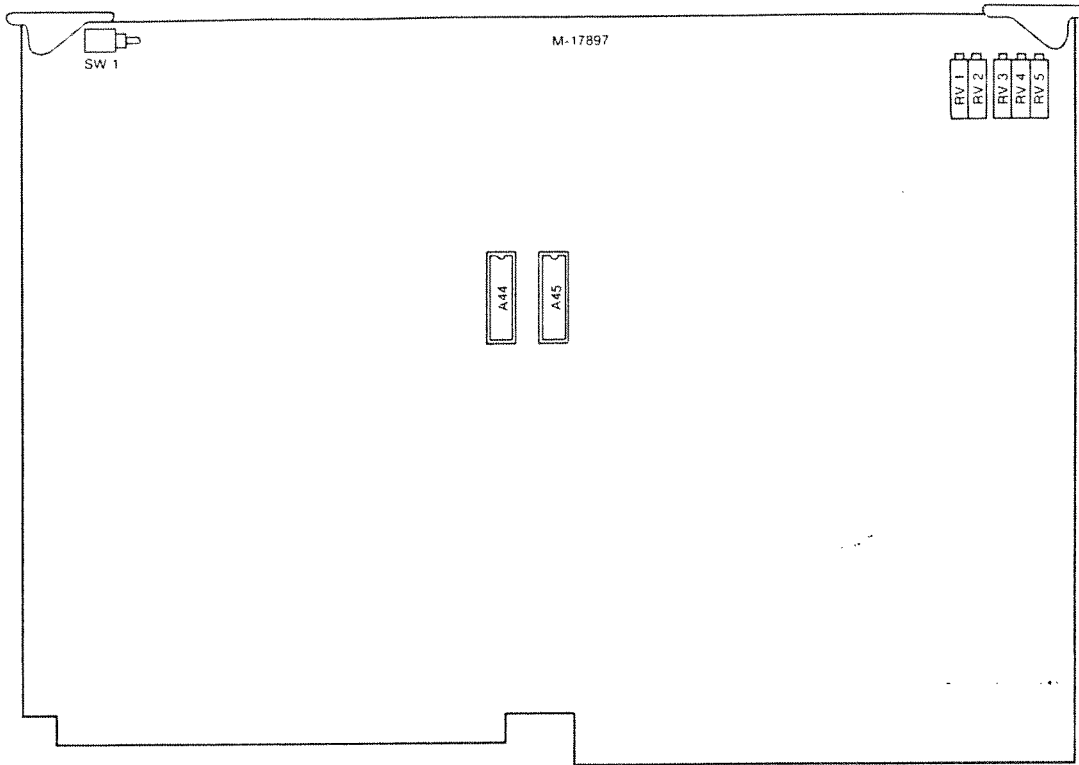

Figure B-5
5. If the new Firmware is being installed in a Model 4203 (8K Channel) Analyzer, which currently has version 2.1, remove the Display Board from the Analyzer. Remove chip A44, which is marked with two green dots (see Figure B-5), and replace it with the supplied new chip marked with two red dots. Replace the Display Board in the Analyzer.